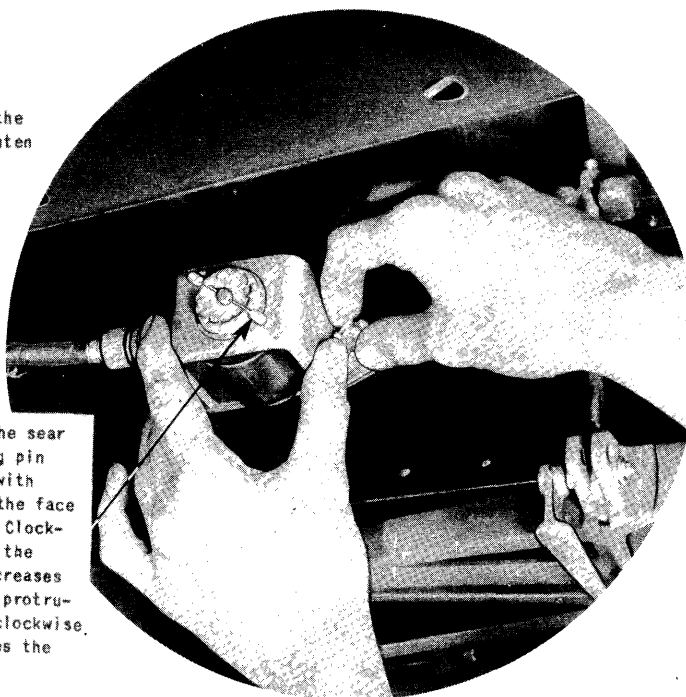

Figure 18 - Installing Solenoid
(4) To Install the Solenoid on the Gun. - Install the solenoid on the inboard side of the gun, tighten the attaching nut and insert a safety pin to lock the nut. (See figure 18.) If it is necessary, adjust the sear plunger protrusion on the solenoid with the adjustment pin on the face of the solenoid. The end of the adjustment pin which is painted red should match the red mark on the face of the solenoid. Clockwise rotation decreases the protrusion and counterclockwise rotation increases the protrusion. Check the tightness of the electric cable ferrule.